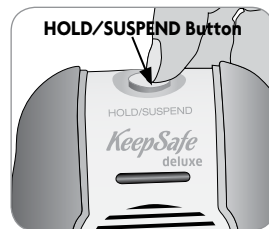

Fig. 8
1. Press HOLD/SUSPEND button on the top of alarm (fig. 8) for 3 seconds.